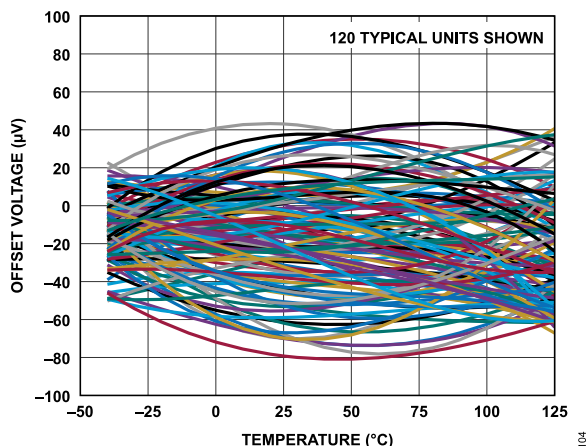
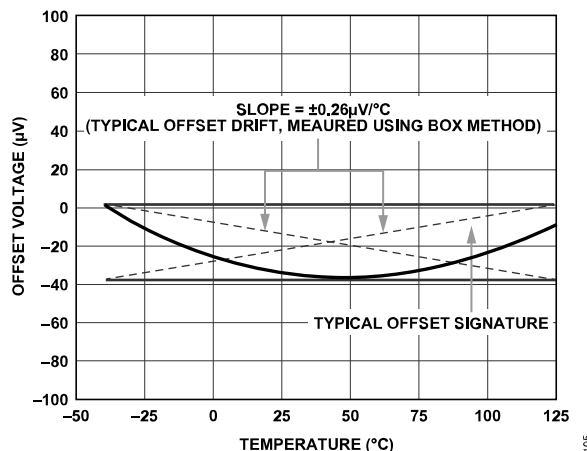
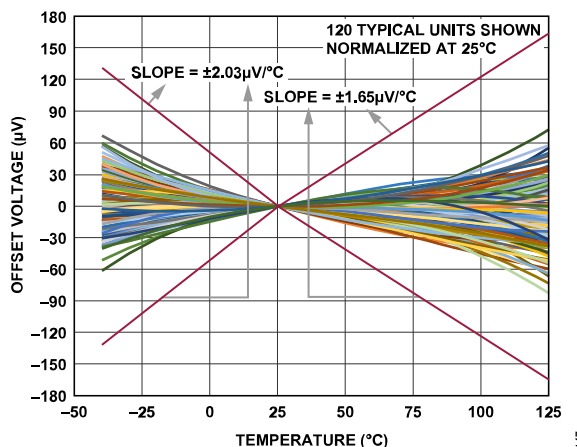

Figure 52. Offset Voltage vs. Temperature
Figure 53. Box Method
Figure 54. Bowtie Method
The AD8411A features an in-package trim core, which leads to a typical offset drift of $\pm 0.26 \mu\text{V}/^\circ\text{C}$ (using the Box Method) throughout the operating temperature range and the common-mode voltage range. This architecture does not compromise bandwidth, but the offset voltage drift signatures for the AD8411A vary from part to part, as shown in the Figure 52. After observing the minimum and maximum value for V_{OS} over the full temperature range from -40°C to 125°C , the V_{OS} in $\mu\text{V}/^\circ\text{C}$ is calculated for each part using the box method.
A visual representation of this box method calculation and the mean value for the V_{OS} drift using the box method is shown in Figure 53. Based on the mean (Typ) value of $\pm 0.26 \mu\text{V}/^\circ\text{C}$ and the standard deviation of the box method drift of the 120 parts from Figure 52, a user can calculate a value (see equation (1)) for a guarantee V_{OS} drift by characterization, $\pm 0.75 \mu\text{V}/^\circ\text{C}$.
Typically, in the applications where the AD8411A is used, calibration is done at 25°C . If a single point calibration at 25°C is done on the 120 parts as shown in Figure 52, this creates a plot shown in Figure 54. For each part, the slope of the line from 25°C to -40°C is calculated, and the slope from 25°C to 125°C for each part is calculated. The mean and standard deviation for the slope of all the parts from 25°C to -40°C is then calculated. The V_{OS} max drift of $\pm 2.03 \mu\text{V}/^\circ\text{C}$ using the bowtie method is then calculated using equation (1). The mean and standard deviation for the slope of all the parts from 25°C to 125°C is then calculated. The V_{OS} max drift of $\pm 1.65 \mu\text{V}/^\circ\text{C}$ using the bowtie method is then calculated using equation (1). The red lines in Figure 54 represent the worst-case V_{OS} drift slopes using the bowtie method that a user can guarantee through characterization. Calibrating at 25°C allows the max V_{OS} over the full temp range to be reduced to $\sim \pm 165 \mu\text{V}$, as opposed to the $\pm 200 \mu\text{V}$ listed in the Table 1 table as the max V_{OS} over temperature (with no calibration).